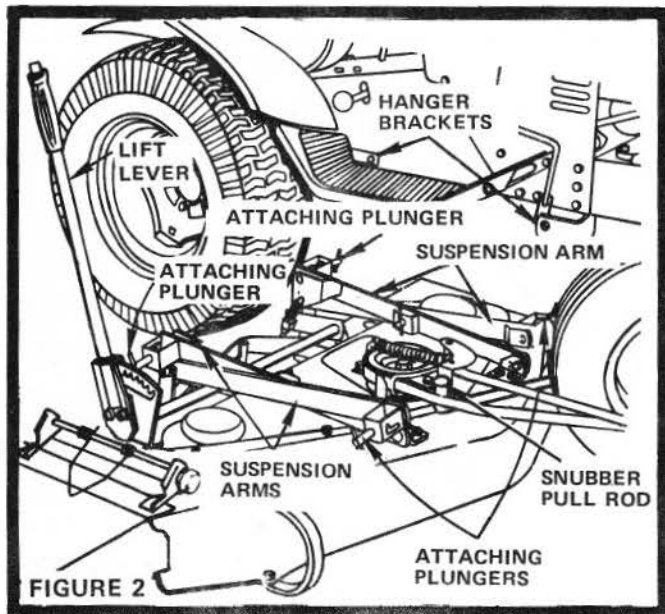

FIGURE 2
3. Position mower on R.H. side of tractor as shown (Fig. 2).